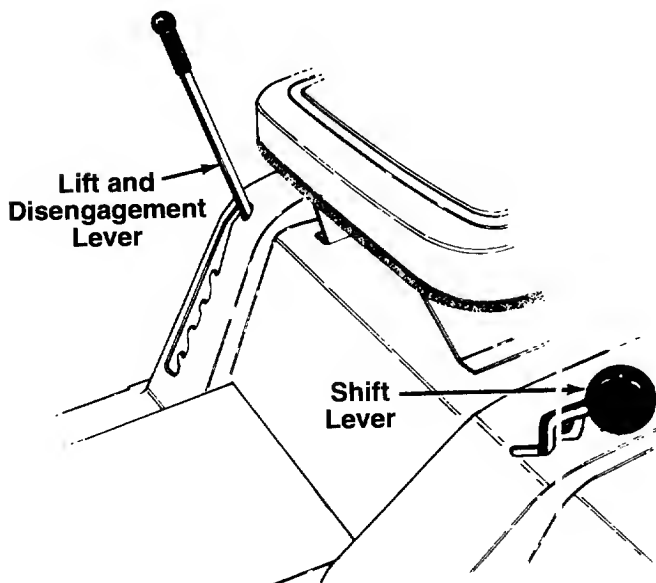

FIGURE 7.
The shift lever is located on the left fender and has three positions, FORWARD, NEUTRAL, and REVERSE. See figure 7. The clutch-brake pedal must be depressed and the lawn tractor must not be moving when shifting gears. Do not force the shift lever. Release the clutch-brake pedal slightly to line up the shifting collar in the transmission. Then try to shift gears.
The lift and disengagement lever is used to raise and lower the cutting deck which determines the cutting height. Pulling it all the way back and locking it disengages the blades. The lift and disengagement lever must be in the disengaged position when starting the engine, when shifting into reverse or if the operator leaves the seat. See figure 7.
2. Place the lift and disengagement lever in the DIS-ENGAGED position. See figure 7.